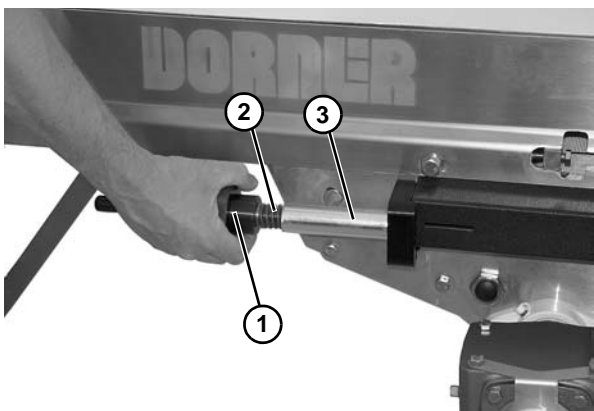
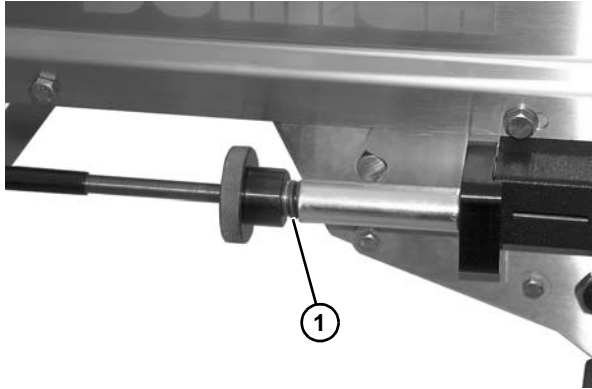

Figure 66
Figure 67
- Turn knob (**Figure 66, item 1**) on each side of the center drive clockwise until the tensioning spring (**Figure 66, item 2**) is completely behind the spring cover (**Figure 66, item 3**). There should be approximately a 1/8" gap (**Figure 67, item 1**) between knob and spring cover.
- As normal belt stretch occurs over time, the spring (**Figure 66, item 2**) will be exposed out of the spring cover (**Figure 66, item 3**). When the spring is exposed over 1/2", or if conveyor belt slippage occurs, retighten knob (**Figure 66, item 1**) on each side of the center drive clockwise until tensioning spring is completely behind the spring cover.